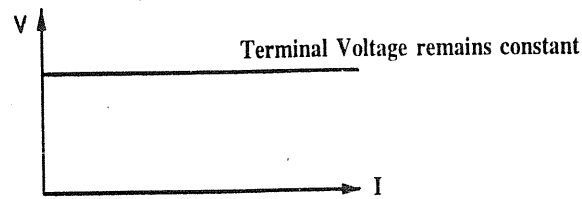

FIG. 1.70 : V-I CHARACTERISTIC OF AN IDEAL VOLTAGE SOURCE
- V-I characteristics for an ideal voltage source is shown in Fig. 1.70.